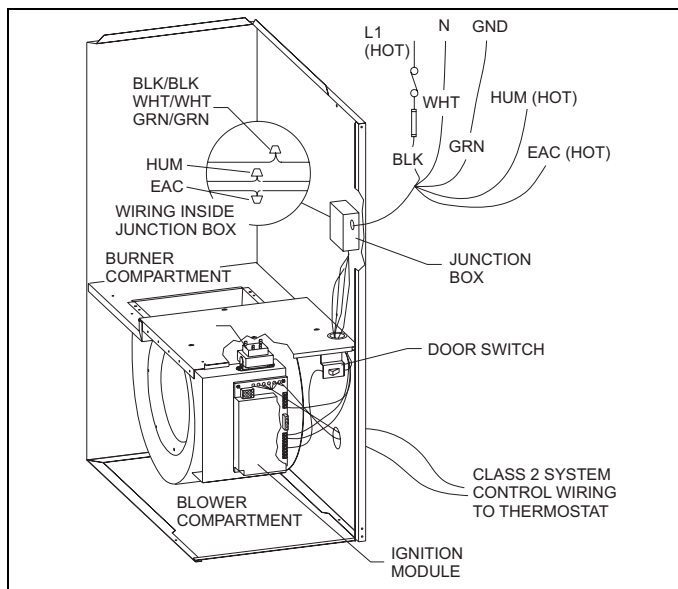

FIGURE 8: Electrical Wiring
2. Remove the screws retaining the junction box cover. Route the power wiring through the opening in the unit into the junction box with a conduit connector or other proper connection. In the junction box there will be three wires, a Black Wire, a White Wire and a Green Wire. Connect the power supply as shown on the unit wiring label on the inside of the blower compartment door or Figure 8. The black furnace lead must be connected to the L1 (hot) wire from the power supply. The white furnace lead must be connected to neutral. Connect the green furnace lead (equipment ground) to the power supply ground. An alternate wiring method is to use a field provided 2" (5.1 cm) x 4" (10.2 cm) box and cover on the outside of the furnace. Route the furnace leads into the box using a protective bushing where the wires pass through the furnace panel. After making the wiring connections replace the wiring box cover and screws.